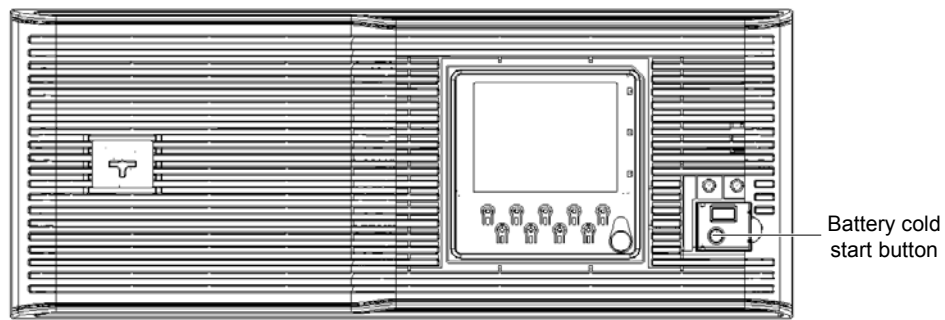

Figure 5-2 Battery cold start button
2. Open the protective cover on the front door, and press the battery cold start button (see Figure 5-2 for its position).